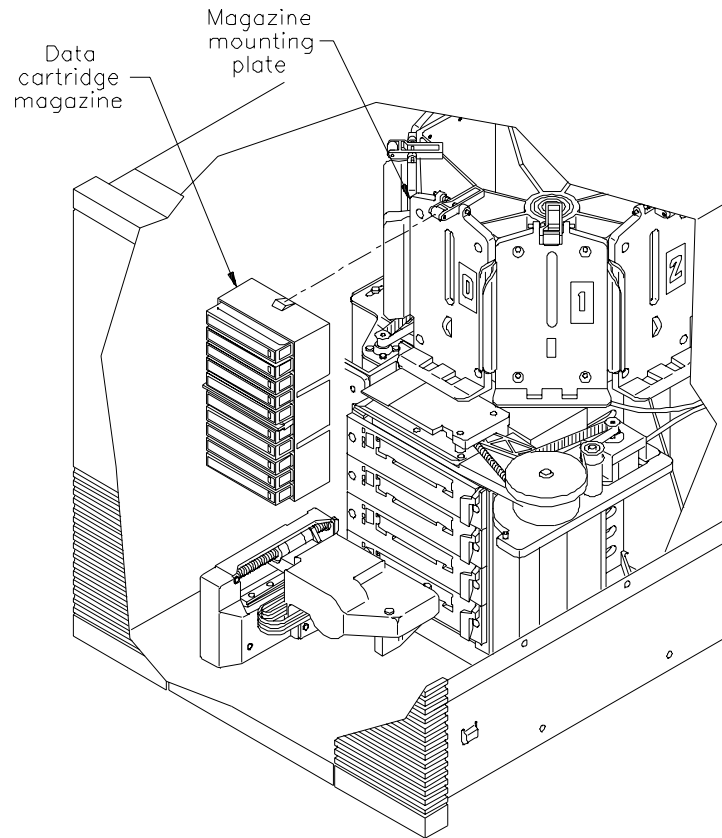

Figure 1-15 Installing a cartridge magazine in the library
3. Position the magazine over the mounting plate with the single mounting guide toward the top, as shown in Figure 1-15.